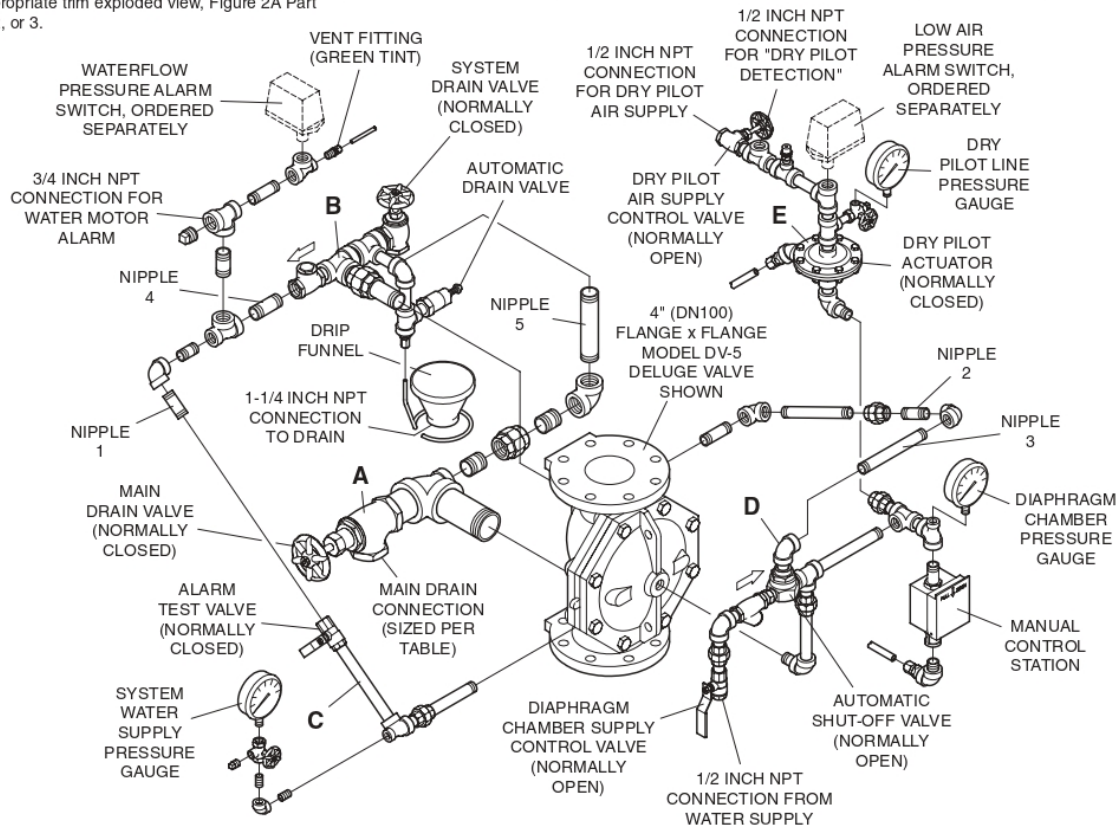
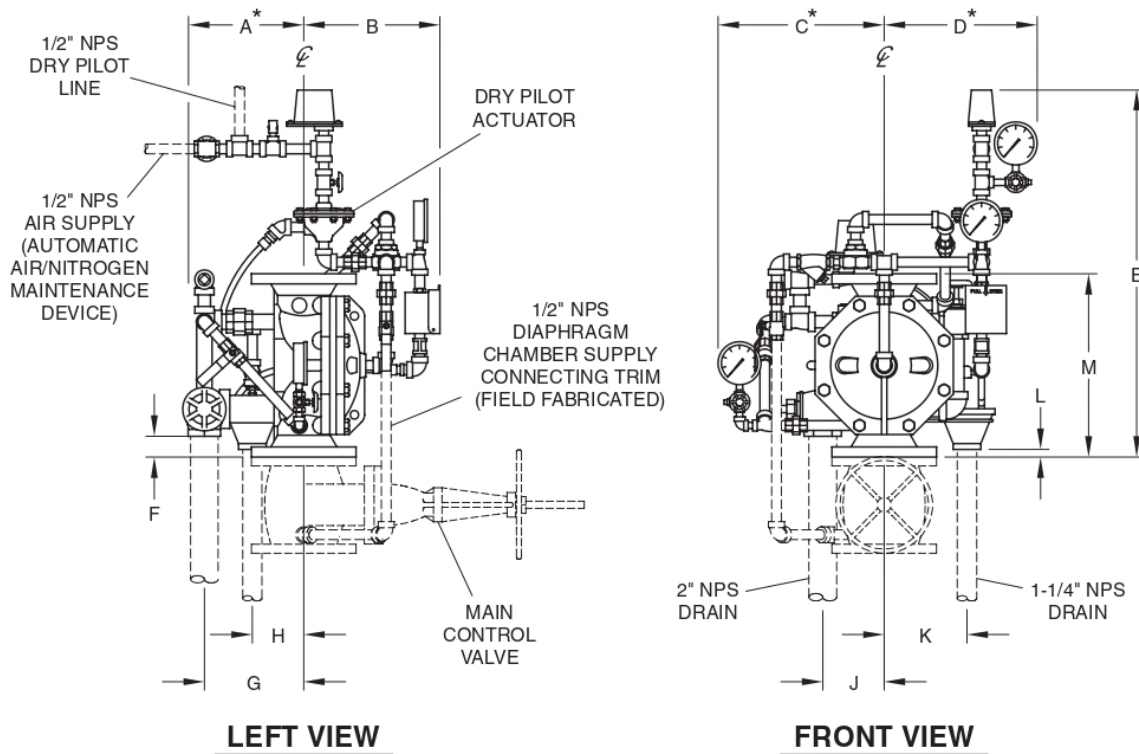

FIGURE 2B
FIGURE 3
consisting of pilot sprinklers (heat detectors) and manual control stations interconnected with minimum 1/2 inch (DN15) steel pipe. The dry pilot line, which is to be pressurized with air or nitrogen, is connected to the "Dry Pilot Detection" connection shown in Figure 2B. Nominal installation dimensions for Vertical Dry Pilot Actuation Trim are shown in Figure 3.
Step 7. Connect the Diaphragm Chamber Supply Control Valve to the inlet side of the system's main control valve in order to facilitate setting of the DV-5 Valve (Ref. Figure 3).